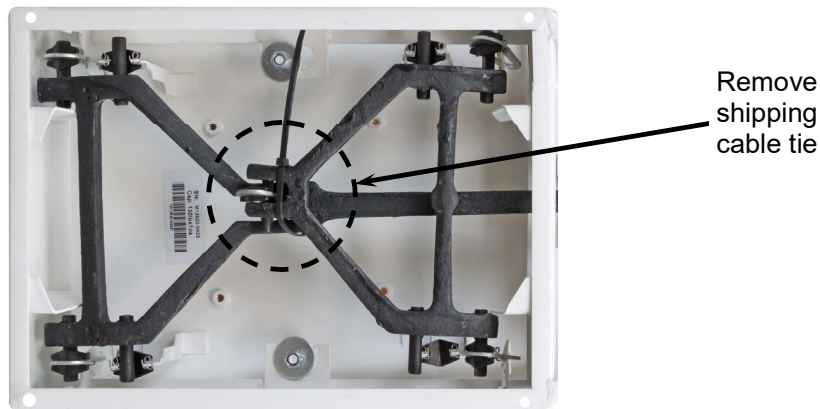

Figure 1. – Turn scale over to access bottom of the scale base
2. Turn the scale over and remove and discard the shipping cable tie on the underside of the scale base as shown in Figure 1.